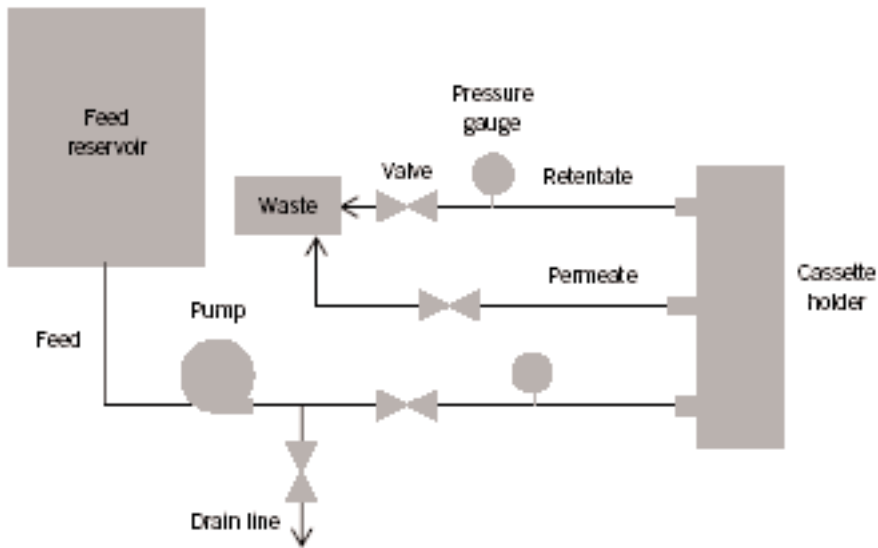

Figure 3. Typical setup for rinsing cassettes or the initial flow of cleaning solution at the start of cleaning
4. Cassette information (see Figure 3)
Cassette identifying information is laser engraved on the side of the cassette. The information describes the following: manufacturer, lot number, cassette type (Kwick Pilot or Kwick Process), part number, pore size (10K, 30K, 50K, etc.) and the membrane area in square feet and square meters (Figure 3).